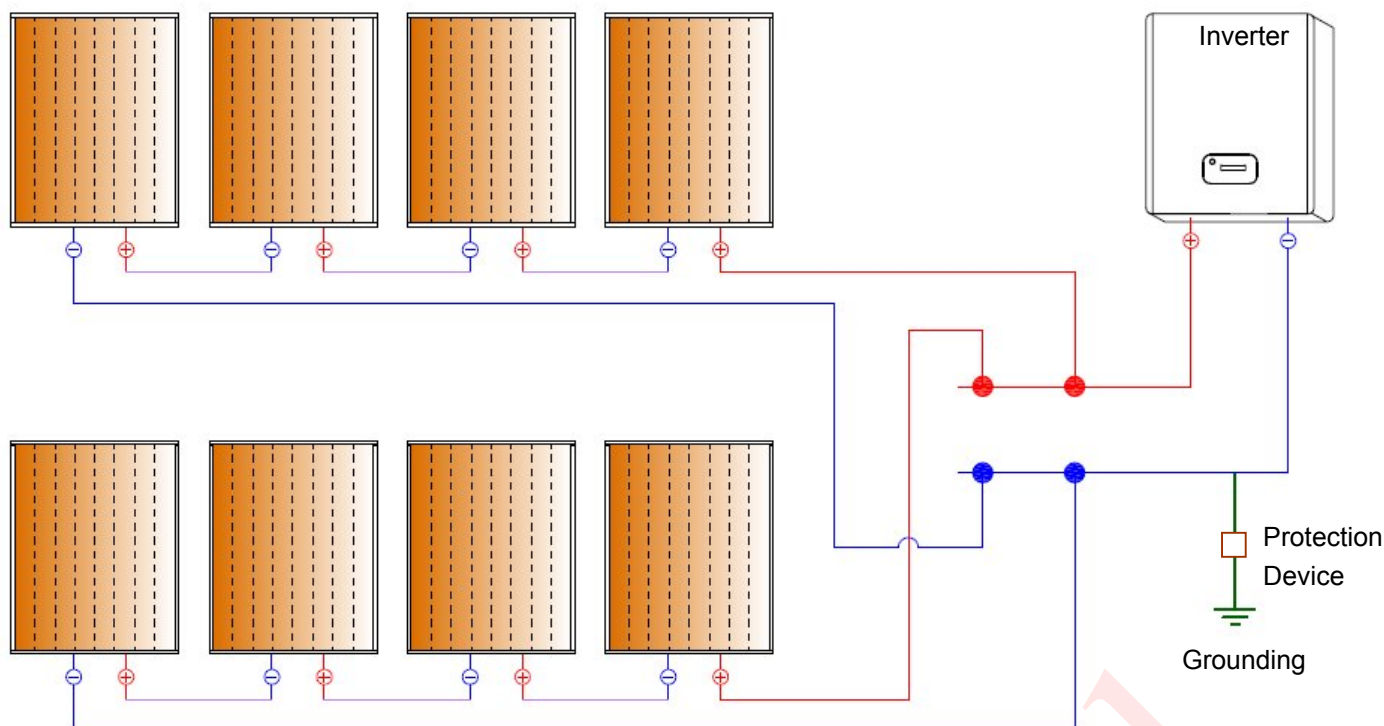

Fig.13 Negative pole grounding method
- The negative pole of solar generator strings connected to the inverter must also be grounded (Fig. 13). Otherwise it will void the warranty.